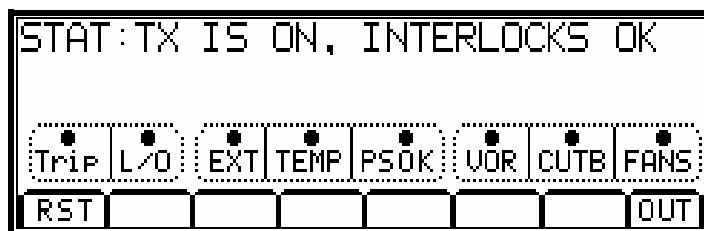

Figure 5 Interlocks Status
- Interlocks and Status are OK. You can check the interlocks status by pressing “INTK” soft-button on the main screen. The interlocks status screen is shown in Figure 5.